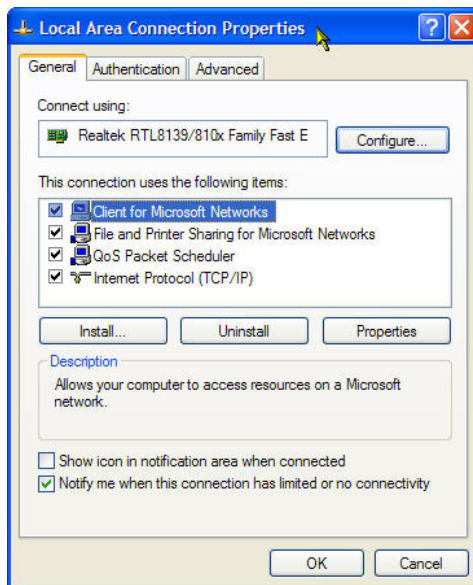

Figure 6
8. Click on “OK” for each window that you have opened. When you are done, notice that the icon for the original folder is slightly different to indicate that this folder is now shared on the network. This is shown in Figure 6.